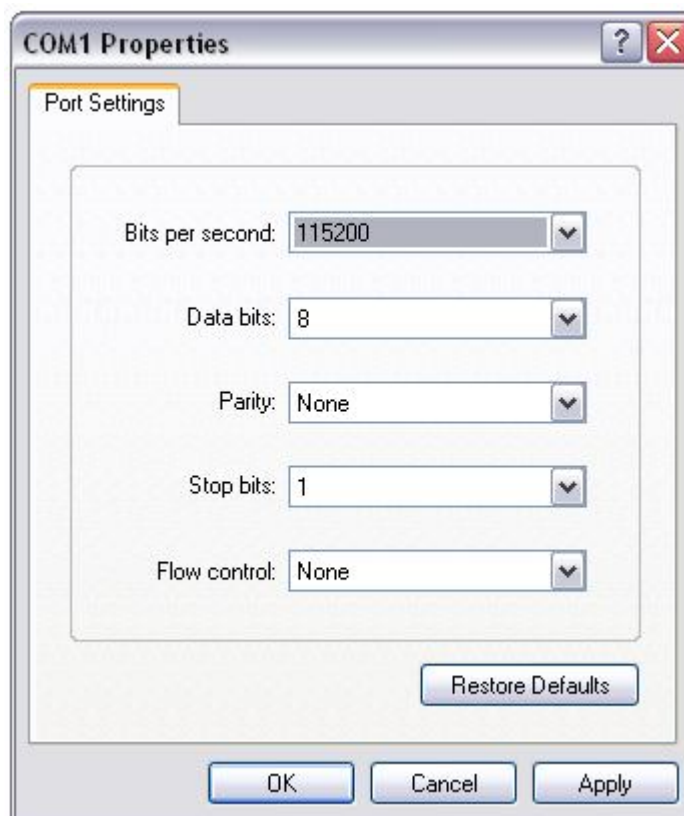

Figure 5-3 Terminal Communication Parameter Settings
- 3 Click <OK> to enter Terminal Communication Parameter Settings, as show figure 5-3: